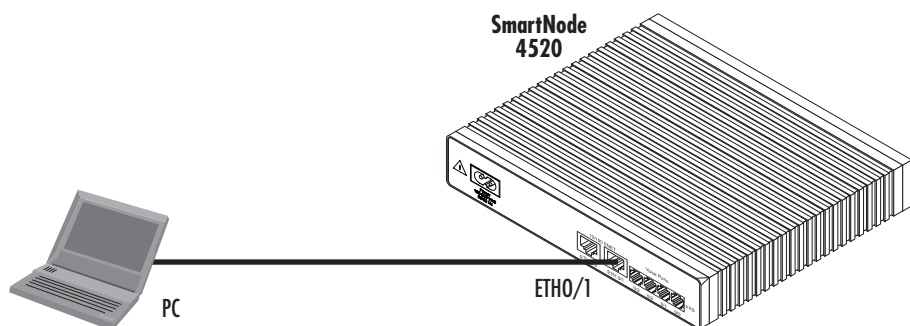

Figure 2. Connecting the SmartNode directly to your PC
LAN interface *ETH0/1* is configured as DHCP server (see figure 2).
6. Using the included black Ethernet cable, connect the SmartNode RJ-45 Ethernet LAN port labeled *ETH0/1* directly to the Ethernet port on your PC (see figure 2 on page 3).